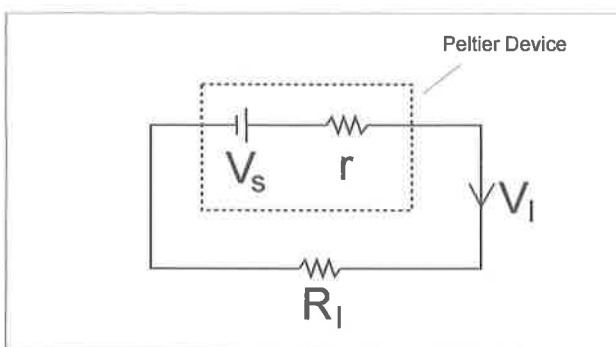
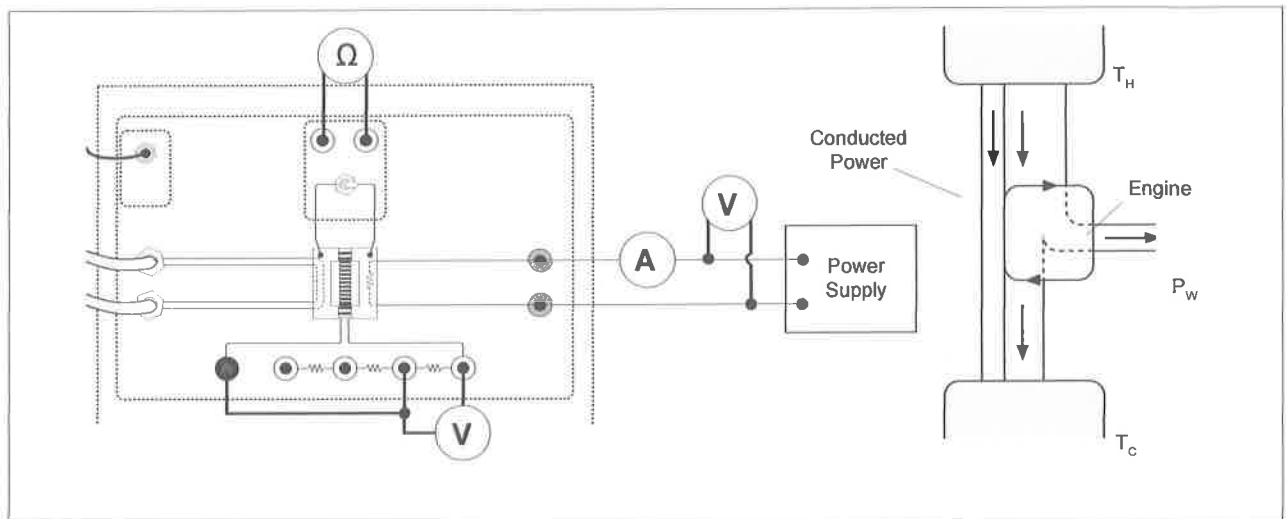
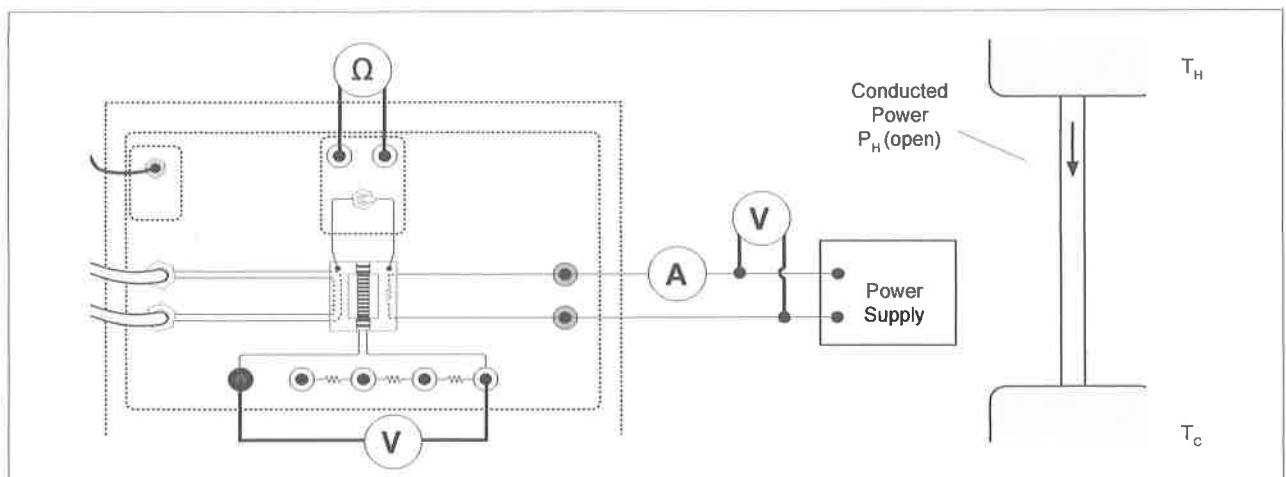
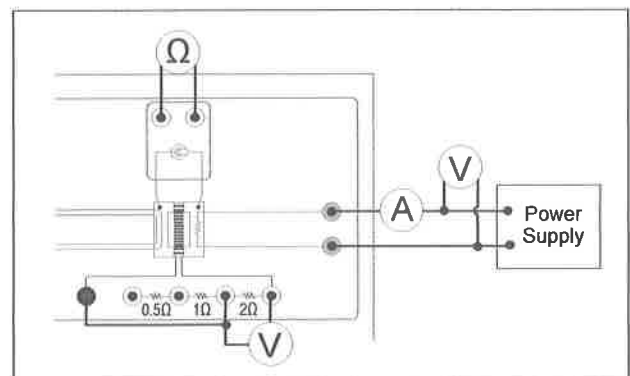

Figure 5: Procedure for Finding Internal Resistance
Figure 6: Heat Engine With A Load
Figure 7: No Load
Figure 2.1
First run the Thermal Efficiency Apparatus with a load resistor ( $R$ ) as in figure 6. The electrical equivalent of this setup is shown in figure 5. Kirchoff's Loop Rule gives
Next, run the Thermal Efficiency Apparatus with no load, as in Figure 7. Since there is no current flowing through the internal resistance of the Peltier Device, the voltage drop across the internal resistance is zero and the voltage measured will just be  $V_S$ .
The Thermal Efficiency Apparatus is run with a load connected to measure  $P_H$  (Figure 6) and then the load is disconnected and the power input into the hot reservoir is adjusted to maintain the temperatures (less power is needed when there is no load since less heat is being drawn from the hot reservoir). See Figure 7.  $P_{H(\text{open})}$  is the power input
The work can be measured directly but the heat delivered to the hot reservoir has to be measured indirectly. Notice that when the heat pump is operating, the temperature of the hot reservoir remains constant. Therefore, the hot reservoir must be in equilibrium and the heat delivered to it must equal the heat being conducted and radiated away. So a measurement of the heat conducted and radiated away at a given temperature difference will also be a measurement of the heat delivered to the hot reservoir. The heat conducted and radiated is measured by running the device with no load and measuring the heat input needed to maintain the temperature of the hot side (Figure 7).
- B. Connect the  $2\Omega$  load resistor with a short patch cord as shown in Figure 2.1. Connect a voltmeter across the load resistor.
② Open
- A. Disconnect the patch cord from the load resistor so no current is flowing through the load and thus no work is being done. Now all the power delivered to the heating resistor is either conducted to the cold side or radiated away. Leave the voltmeter attached so that the Seebeck voltage ( $V_S$ ) can be measured. (see figure 7)
- ① Actual Efficiency: Calculate the actual efficiency using